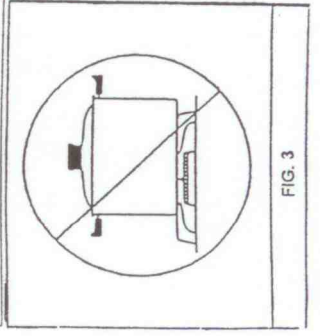

FIG. 3
- Locate pan centrally over the burner so that is stable and does not overhang the appliance (fig. 3).